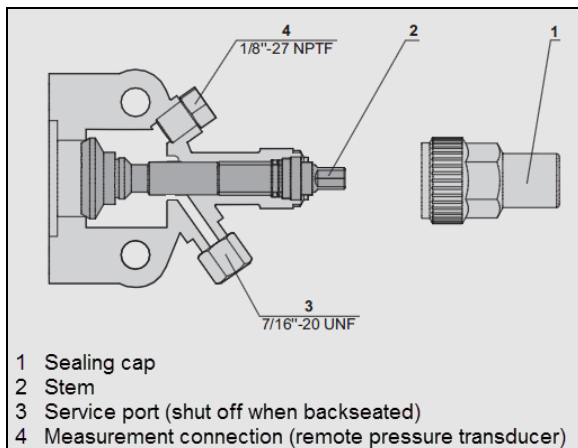

FIGURE 76: COMPRESSOR SHUT-OFF VALVE IN FRONT SEATED POSITION
3. Close (frontseat) the receiver tank outlet shut-off valve by turning the stem clockwise (Figure 42 and Figure 76).
10. Close (frontseat) the suction shut-off valve on the compressor (Figure 76).